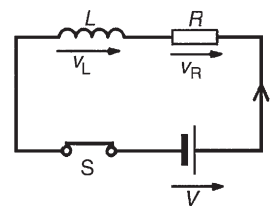

Figure 18.10
- (a) The circuit diagram for a series connected $L-R$ circuit is shown in Fig. 18.10. When switch S is closed, then by Kirchhoff's voltage law: